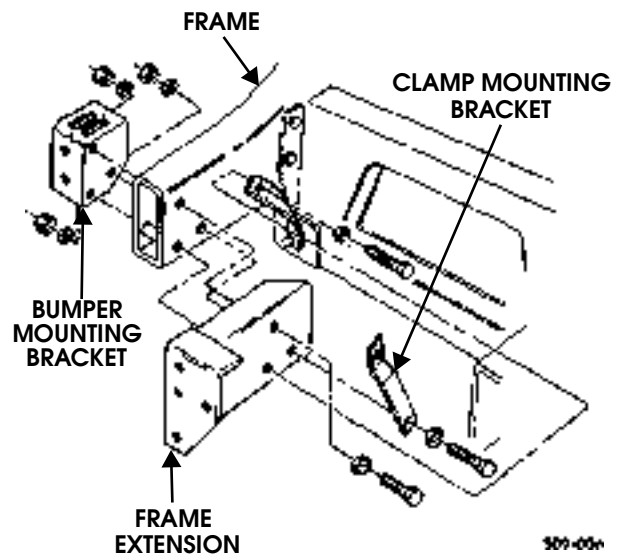

Figure 9-120: Frame Extension Replacement
3. Remove two locknuts, washers, bolts, and washers securing front suspension brace to frame extension (Figure 9-120).
1. Install bumper mounting bracket, frame extension, and clamp mounting bracket on frame with three washers, bolts, washers, and locknuts. Do not tighten locknuts (Figure 9-120).